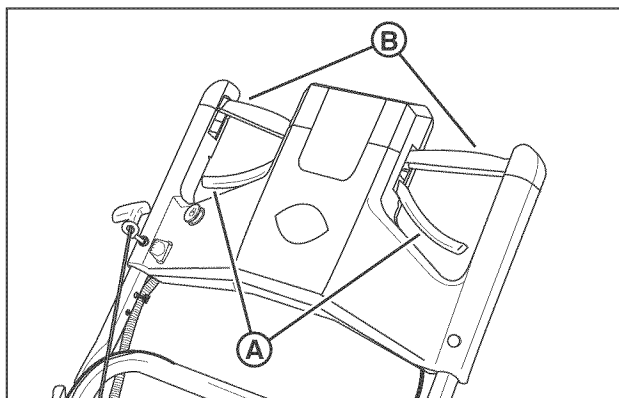

Figure 1: Mower controls
2. Check the blade control (**A, Figure 1**) and drive control (**B**) to insure they work freely.